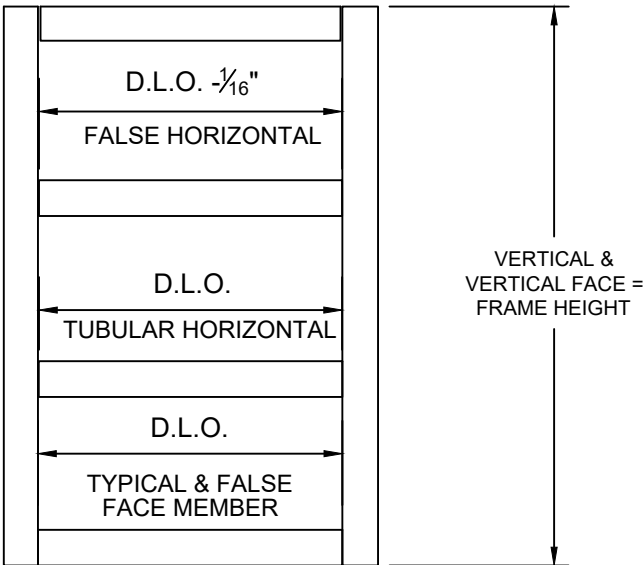
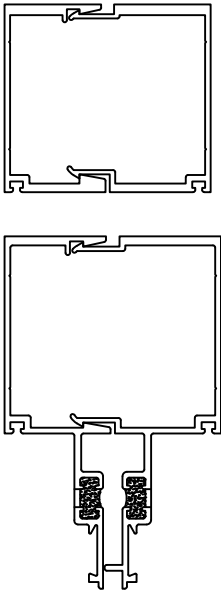

FIGURE 1
FIGURE 2
- 1.2 Cut material to size. SEE FIGURE 1 for guide. NOTE: Layout vertical mullions so that male and female sections are properly located. See FIGURE 2 below.